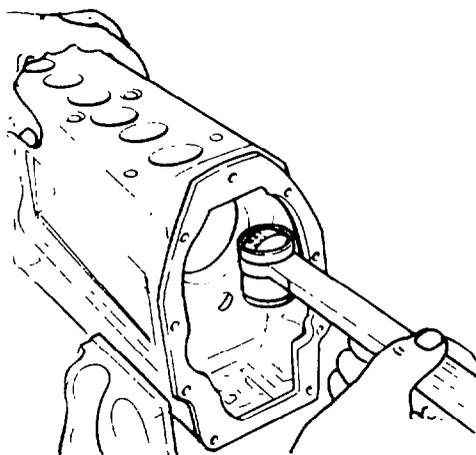

Fig. 105 — Installing Tappet
- ac. Insert the tappet assemblies (items 18 to 23) with service tool TSE 7697 into their respective tappet bores as shown in fig. 105.